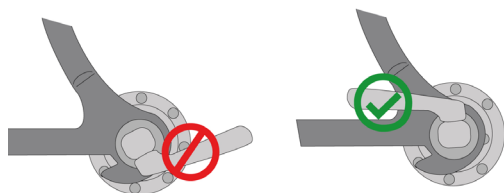
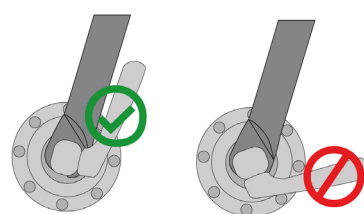

Figure 11
Figure 12
- *Press the wheel firmly into the dropouts, align the wheel with respect to the fork, align the quickrelease lever with the fork arm and then switch it to the closed position. Make sure the quick release lever ends up being parallel to the fork arm as shown on figure 11 and figure 12;*
- *Place the chain on the smallest sprocket of the cassette. Position the wheel axel in the dropouts and push vigorously as shown on figure 11;*